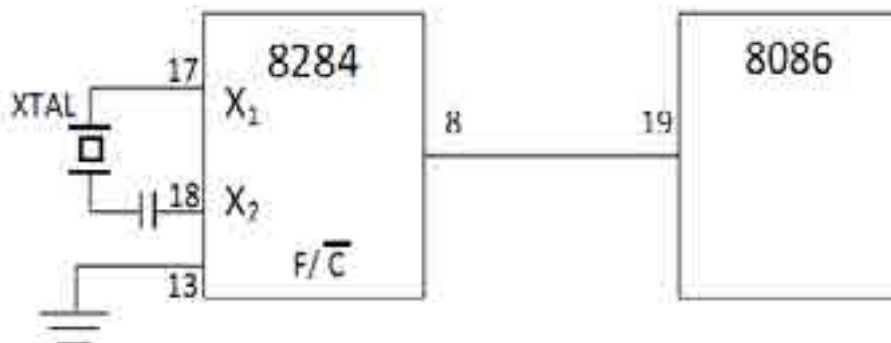

Fig. 4: Connecting the 8284 to the 8086.
- \* For 8086, we connect either a 15-, 24- or 30-MHz crystal between inputs X1 and X2 of the clock chip (see Fig. 4).